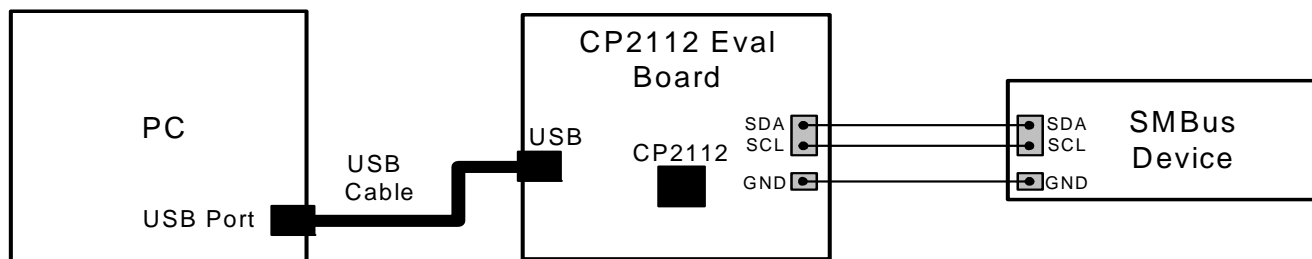

Figure 1. Hardware Setup
Connect the CP2112 evaluation board to a PC as shown in Figure 1.
1. Ensure that the hardware is connected to a Windows PC as shown in Figure 1. If the device is properly connected, the red SUSPEND LED on the CP2112 evaluation board will turn on.
- Updated Figure 1.